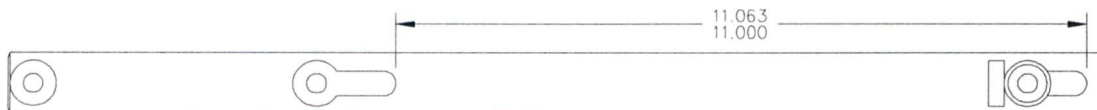

Figure 3 – Keyway dimensions
- c) Critical keyway dimensions are shown in Figure 3. Attempt to insert 27/64 drill shank into bottom end of keyway. If drill can be inserted, slot is worn beyond limit.